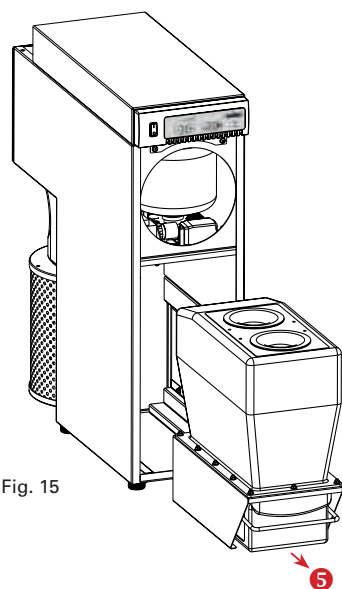

Fig. 15
- ⑤ Pull out the complete filter unit (Fig.15)
- Pull out the filter unit as shown in section 3.1 Fig.15 and replace it with the replacement part.